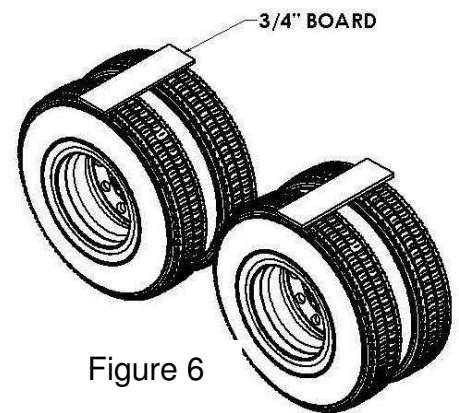

Figure 6
- For an air suspension system, place a $\frac{3}{4}$ ” board on top of the tires after the air has been let out of the airbags (Figure 6). Place the fender on top of the board.